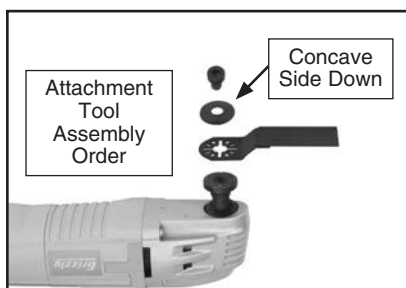

Figure 4. Attachment tool assembly order.
5. Put the accessory washer over the accessory tool (small for the sanding accessory or large for all other accessories), aligning the washer hole with the flange hole. Make sure the concave side of the washer is facing down, as shown in **Figure 4**.